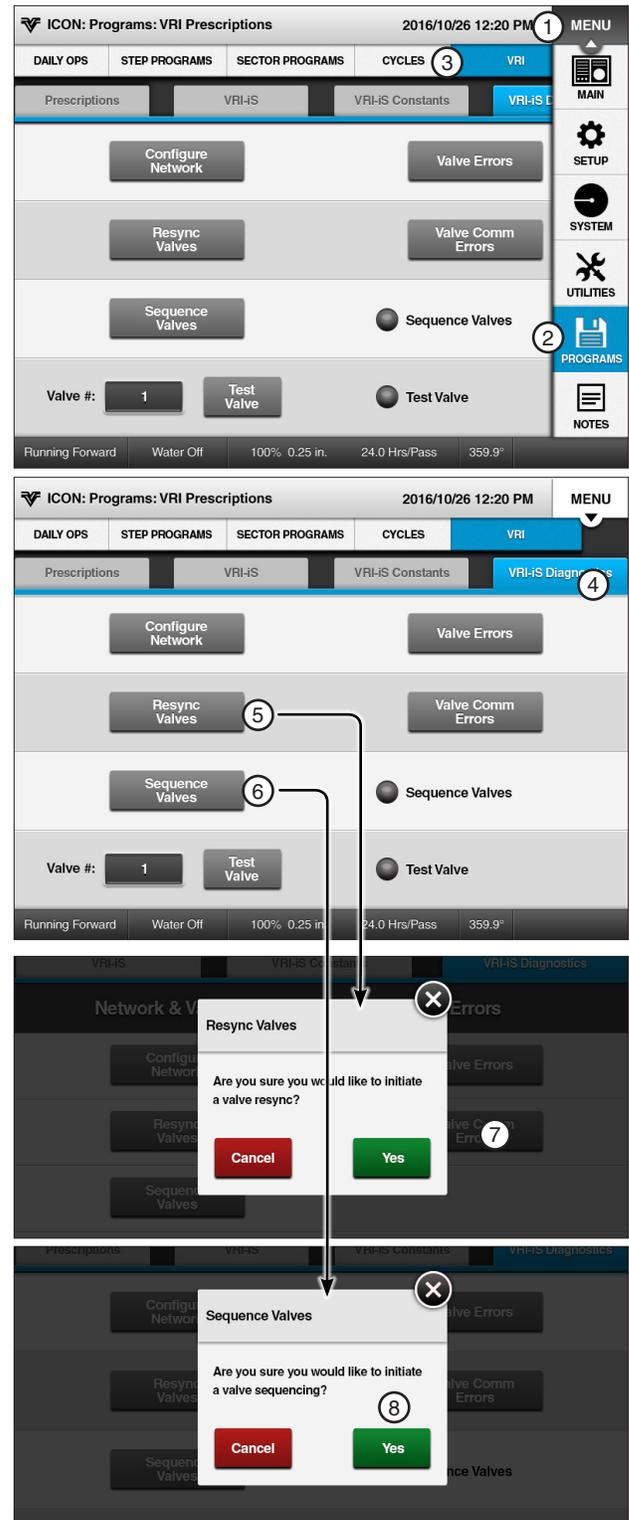

Figure 179-1 1. Menu 5. Resync Valves
5. Push **Menu**, **Programs**, **VRI** and **VRI-iS Diagnostics** to display the VRI-iS diagnostics screen. Refer to Figure 179-1.
1. Push **Menu**, **Programs**, **VRI** and **VRI-iS Diagnostics** to display the VRI-iS diagnostics screen. Refer to Figure 179-1.